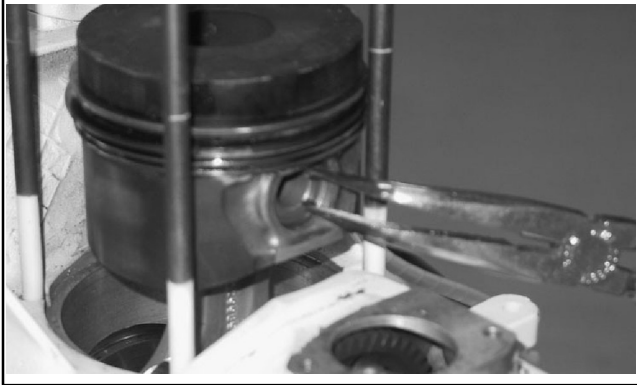

Figure 10-39 Piston
2. Using a needle-nose pliers, remove the piston pin retainer from the groove in the piston. See Figure 10-39.